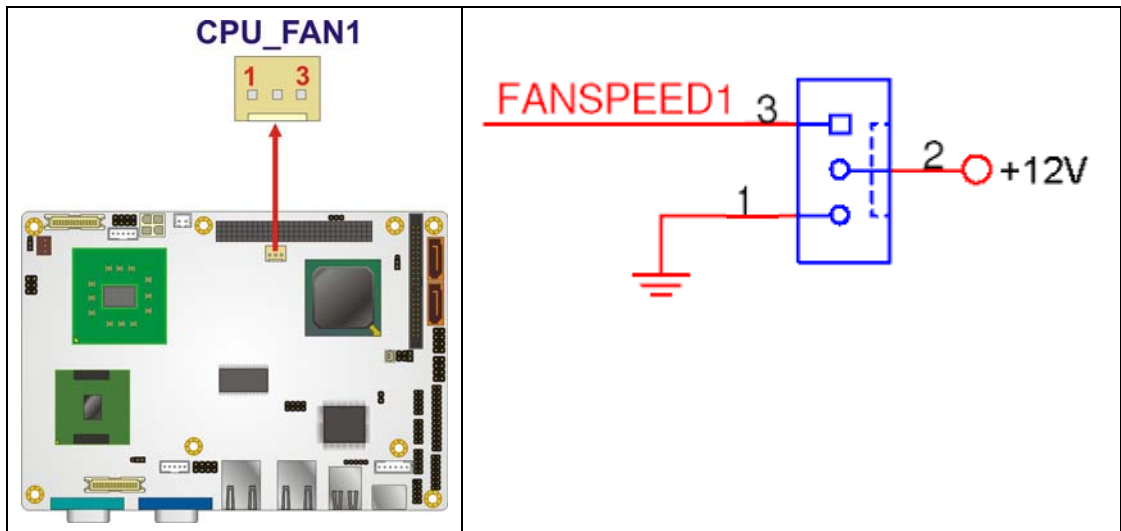

Figure 3-10: +12V Fan Connector Location
- CN Location:** See Figure 3-10